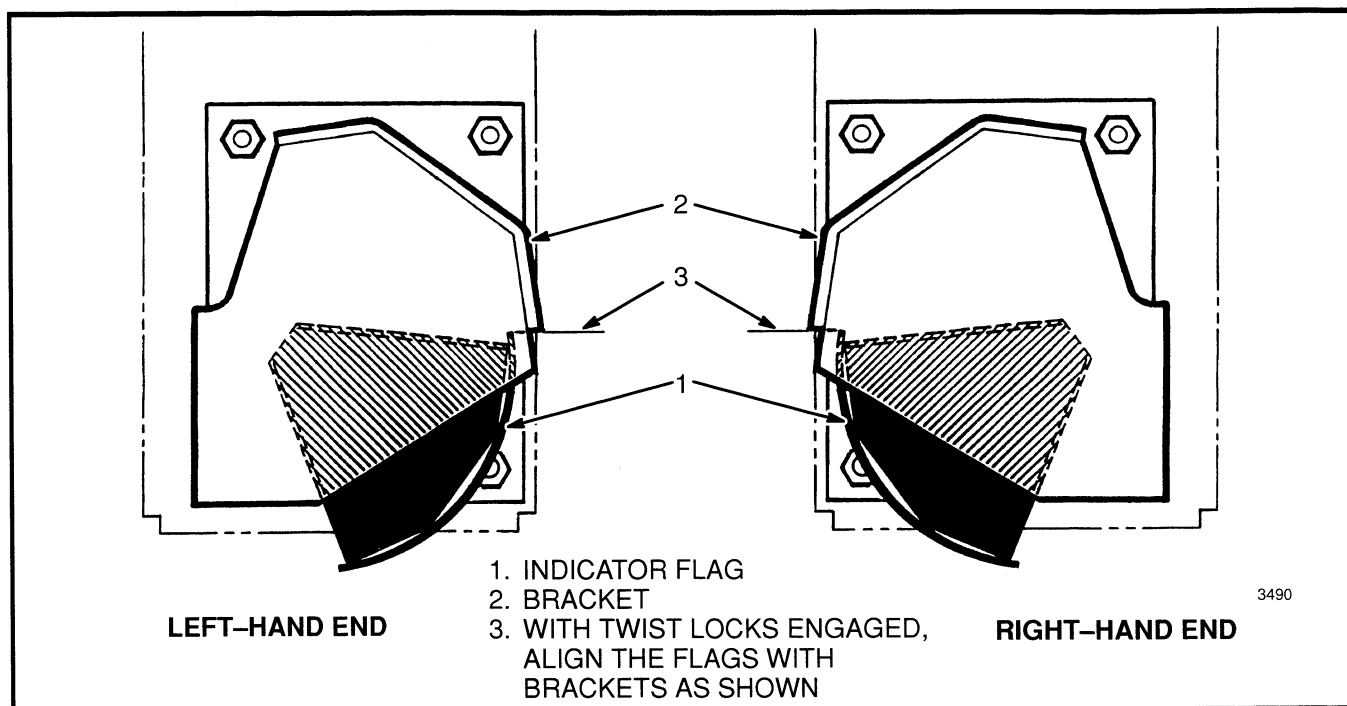

FIGURE 24. ALIGNMENT OF THE INDICATOR FLAGS
- d. Install the nuts and indicator on the bolt. See FIGURE 24. Align the indicators then tighten the nut to 54 Nm (40 lb_f ft) torque.